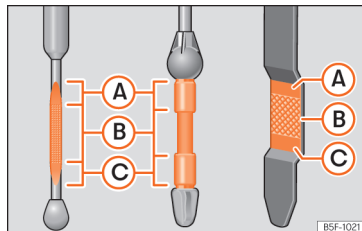

Fig. 304 Engine oil dipstick.
- Then pull it out once more and check the oil level »» Fig. 304. Top up with engine oil if necessary.
If the oil level is above area »» **Fig. 304 (A)**, do not start the engine. This could result in damage to the engine and catalytic converter. Contact a specialised workshop.
The oil level must never be above zone »» **Fig. 304 (A)**. Otherwise oil can be drawn in through the crankcase breather and leak into the atmosphere via the exhaust system.